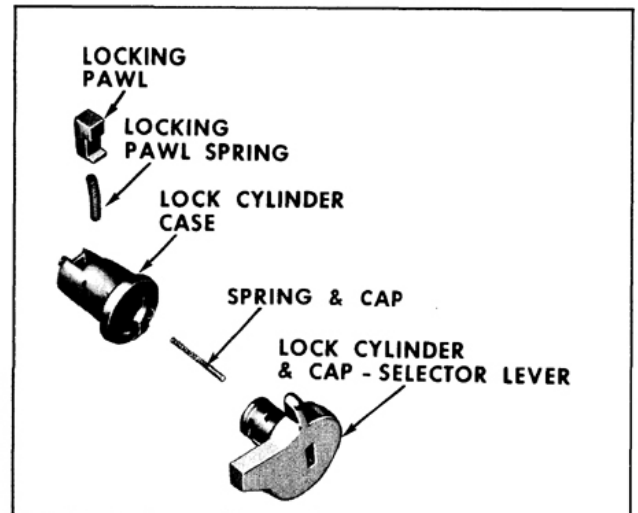

Fig. 16-216 Lock Cylinder and Case
3. Insert a piece of wire (paper clip) in hole on face of lock cylinder cap. While holding lock cylinder case, depress plunger with wire sufficiently to allow key and selector lever to be turned counterclockwise approximately 1/8 turn; then, remove lock cylinder and cap assembly and detent spring from handle assembly. (Fig. 16-216)
NOTE: When removing lock cylinder and cap assembly from case, place finger over locking pawl to prevent pawl and spring from popping out. (Fig. 16-216)